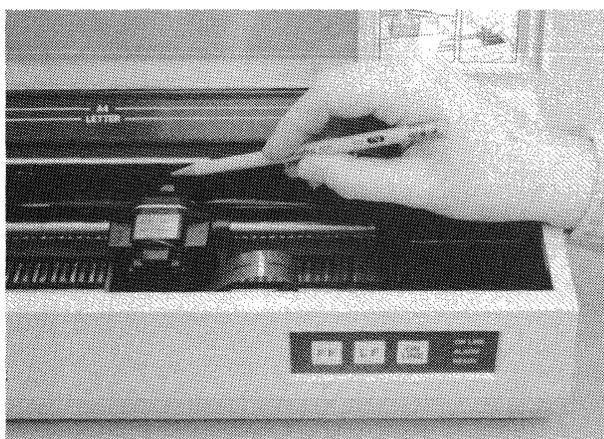

Figure 2-3C Inserting Ribbon at Print Head
5. Using a pencil as shown in Figure 2-3C, place the ribbon between the print head and the shiny ribbon guide. The ribbon should **NOT** be on the platen side of the guide.